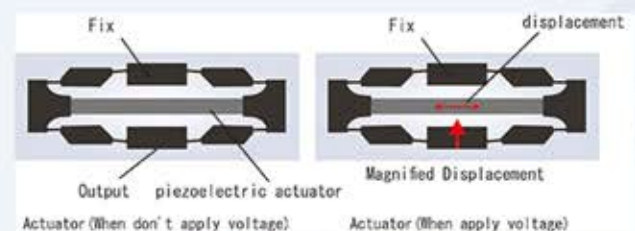

Fig.2 Operating principles
The MechaTrans®D-Series is a compact piezoelectric actuators that can generate large output strokes, which is 10 times and above larger than the stroke of a multilayer stacked piezoelectric actuator. The MechaTrans®D-Series consists of a stroke magnification / amplification structure and multilayer stacked piezoelectric actuators. With the stroke magnification structure, the stroke is magnified to overcome the limitation of the multilayer stacked piezoelectric actuator. The MechaTrans®D-Series is designed flat and compact in size, therefore the efficiency of the space utilization is high. The output stroke is converted to 90degree in direction compare to the original output stroke of the multilayer stacked piezoelectric actuator. When a voltage is applied to the MechaTrans®D-Series, it shrinks as shown in Fig. 2.
- The MechaTrans®D-Series shrinks as Fig. 2 when a voltage applied.
When a voltage is applied to the piezoelectric actuators, the MechaTrans®D-Series shrink as shown in Fig. 2.